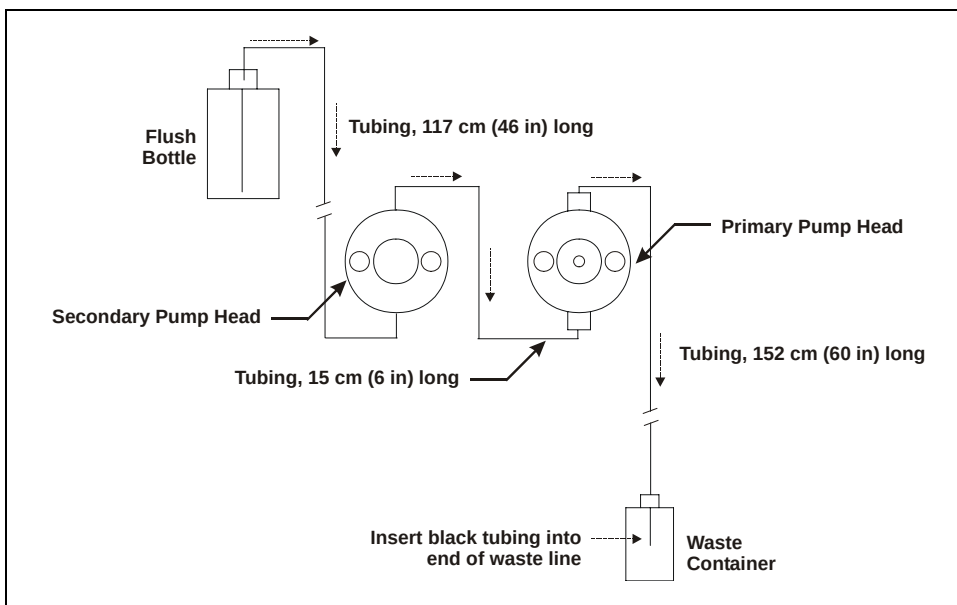

Figure B-49. Piston Seal Wash Flow Schematic
4. Install the tubing as follows (see Figure B-48 and Figure B-49):